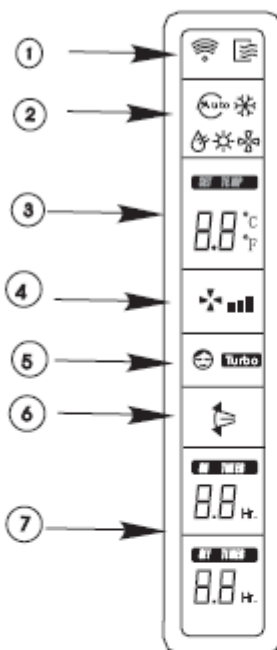

Fig. 2
**⚠ NOTE:** All items are shown in the Fig.2 for the purpose of clear presentation But during the actual operation only the relative functional items are shown on the display panel.